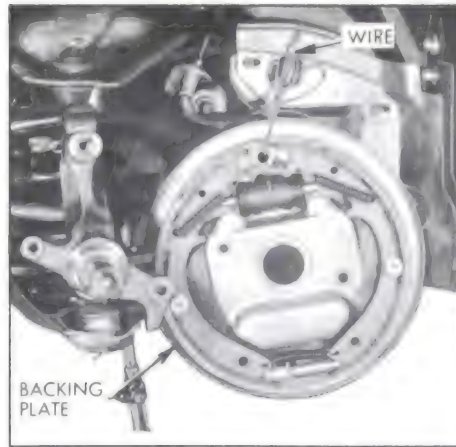

Figure 7-18—Wiring Brake Backing Plate Out of the Way
3. Remove the two bolts and nuts, and the anchor bolt holding the brake backing plate to the knuckle. Remove the backing plate but do not disconnect the brake hose. Support the backing plate in such a manner that the hose will not be damaged. Backing plate may be wired out of the way. See Figure 7-18.